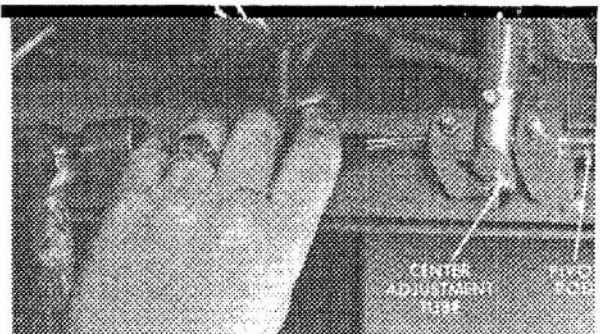

Figure 34
16. Loosen capscrew at bottom of center adjustment tube and tap out pivot rod (Fig. 34).